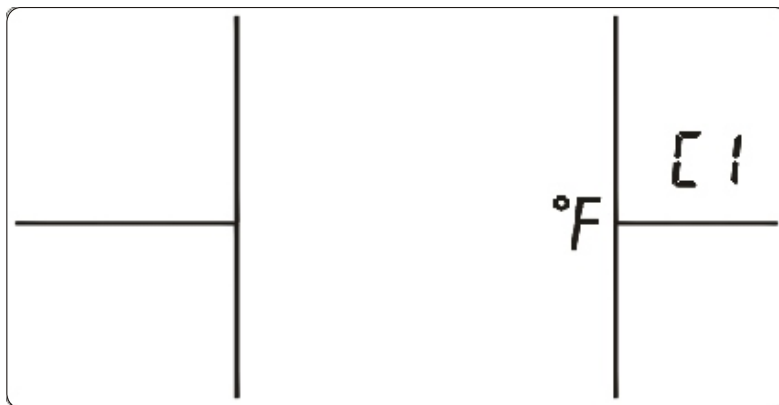
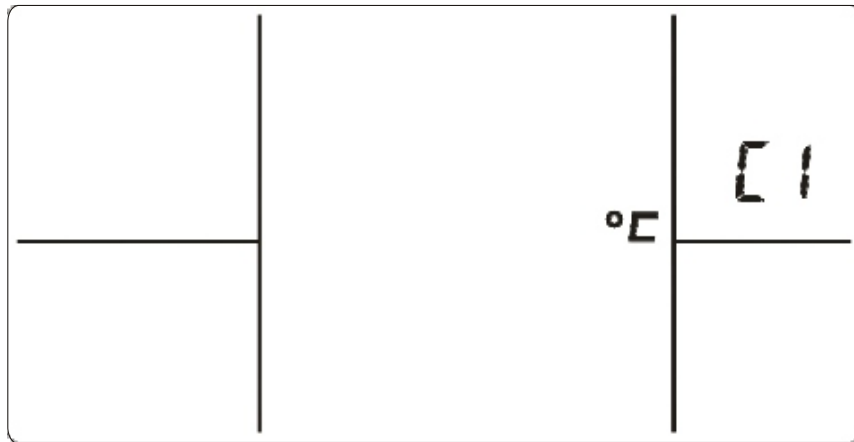

Fig.3 C1 (displays in Fahrenheit)
Fig.4 C1 (displays in Celsius)
- ② Press and hold the TIME button for 5s to set system real time clock and Day. When minute is flashing, you can now set minute by + or - button.
- ③ After finishing minute setting, press TIME button again and hour will be flashing. You can now set hour by + or - button.
- ④ After finishing hour setting, press TIME button again and Day will be flashing. You can now set day by + or - button.
- ⑤ After setting, 5 seconds later thermostat will save it automatically.
(7) Setting Button ()
- ① Press and hold the SET button for 5s to enter menu setting, C1 will display as shown in Fig.3 & Fig.4. This time, you can select the temperature scale by pressing the decreasing - or increasing + button.